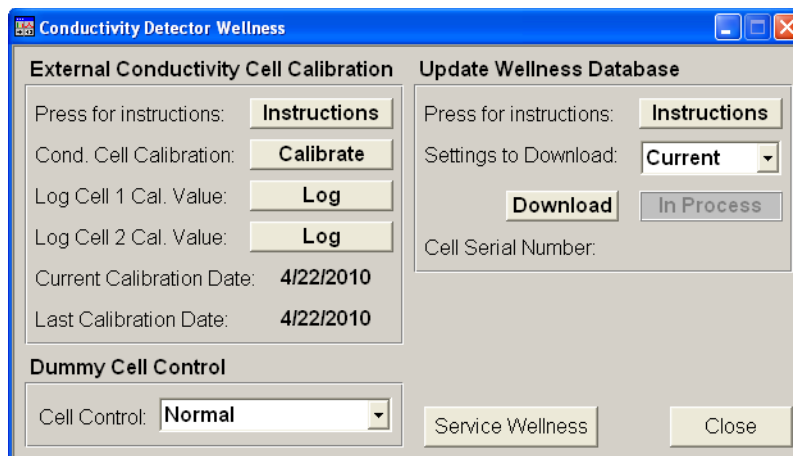

Figure 9-50. Wellness Panel: Dionex ICS-5000⁺ Conductivity Detector (Chromeleon 6.8 Version Shown)
2. Under **Detector Settings**, click **Calibration**. The Wellness panel opens (see Figure 9-50).